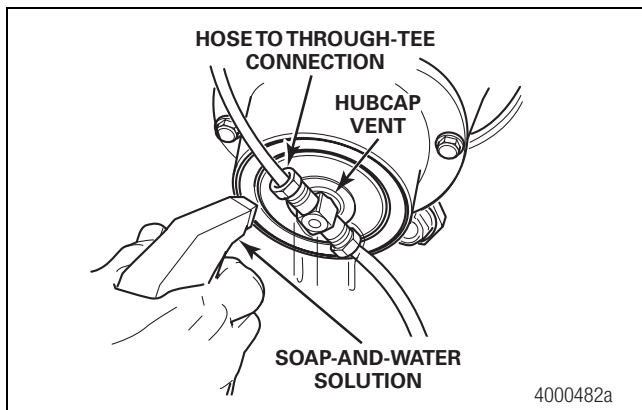

Figure 3.20
1. Spray a soap-and-water solution to check the hose to the through-tee connection and the hubcap vent for leaks. Figure 3.20.